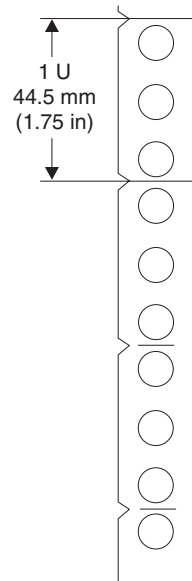

Figure 4. Measuring U levels within rack cabinets
All vertical rack cabinet measurements are given in rack units (U), where 1U is equal to 44.5 mm (1.75 in.) The U levels are marked on labels on the front and rear mounting flanges inside of the rack cabinet, as shown in Figure 4.